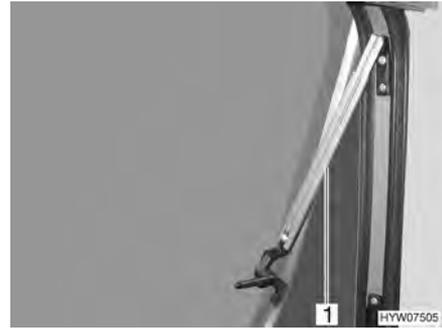

Fig. 58 Hinged window with automatic hinges
- Open the hinged window until the required locking position is reached; the automatic hinge (Fig. 58,1) automatically locks in place.